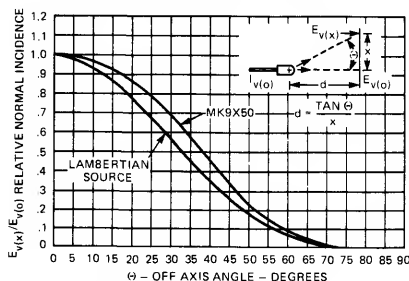

Fig. 13. Normalized Incidence on Diffuser
The edge of legend to center of legend illuminance ratio describes the illuminance uniformity. An illuminance uniformity of 0.5:1, or -3dB has proven acceptable due to the human eye's logarithmic response. Figure 13 presents a plot of the included angle (θ) versus $E_v(x)/E_v(0)$ for the MK9X50 series lamps. This plot indicates that the edge of legend to center of legend ratio of 0.5 occurs when the included angle between the lamp and the edge of the legend ($h/2$) is 38.5 degrees.
1. From Figure 13, a $E_V(x)/E_V(0)$ of .5, $\Theta = 38.5$
Using Figure 13, the lamp to legend distance, d_0 , is determined to be 0.32 inch. The illuminance is calculated from Equation (8) to be 18.9 fc.